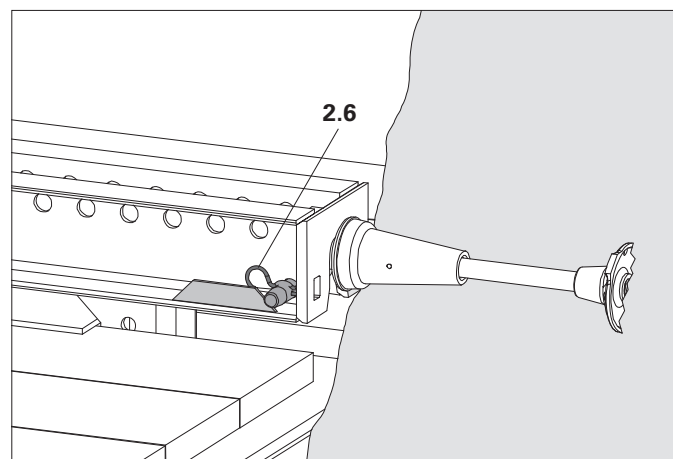

Fig. A5.06a
1. Insert locking pin (2.3) under the Mounting Ring* (16) through the bottom hole of the crossbeam unit.
2. Secure locking pins by means of cotter pins (2.6). (Fig. A5.06a)